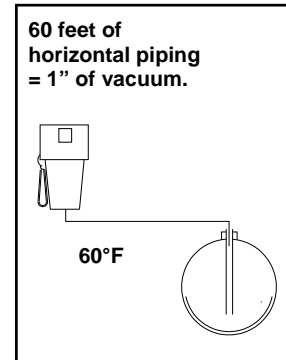

Figure 8
- C. It takes 1 inch of vacuum by the pump to overcome the restriction of 60 feet of horizontal piping from the tank to the pump. See Figure 8.